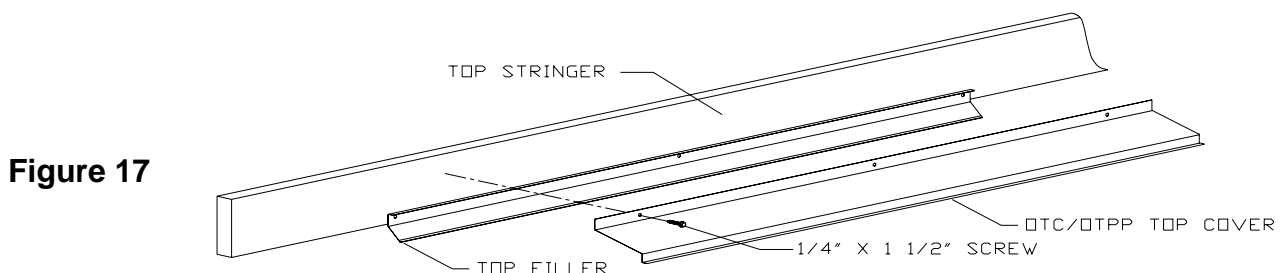

Figure 17
2. Locate the OTC/OTPP top cover shown in Figure 17. Attach the OTC/OTPP top cover to the top stringer using the $\frac{1}{4}$ x $1\frac{1}{2}$ inch hex head screws provided as shown in Figure 17. Note: Use the second chalkline shown in Figure 3 for the screw location. Place a section of pad into the end of the Kool Cel system to check for proper location.